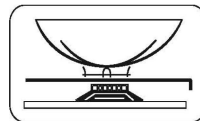

Fig. 5
- Use only wok support supplied or recommended by the manufacturer of the appliance. (Fig 5)